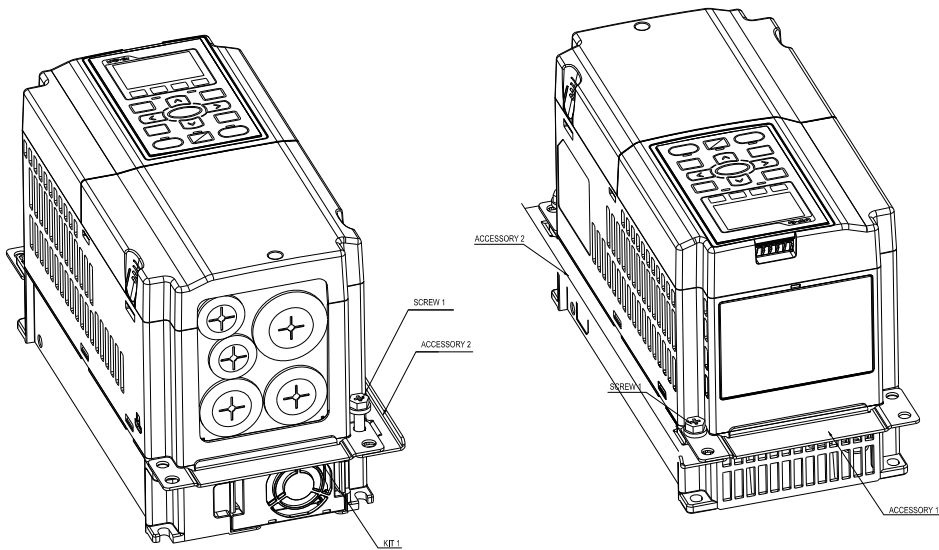

Figure 1
1. Fasten screw\*2 (M6) and accessory 2 & 3. Screw torque: 25~30 kg-cm / [21.7~26 lb-in.] / [2.5~2.9 Nm] (figure 1)